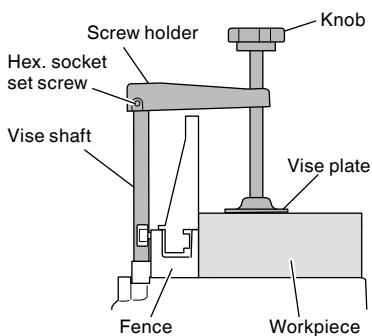

Fig. 24
(1) The vise assembly can be mounted on the base.
(2) Turn the upper knob and securely fix the workpiece in position (Fig. 24).